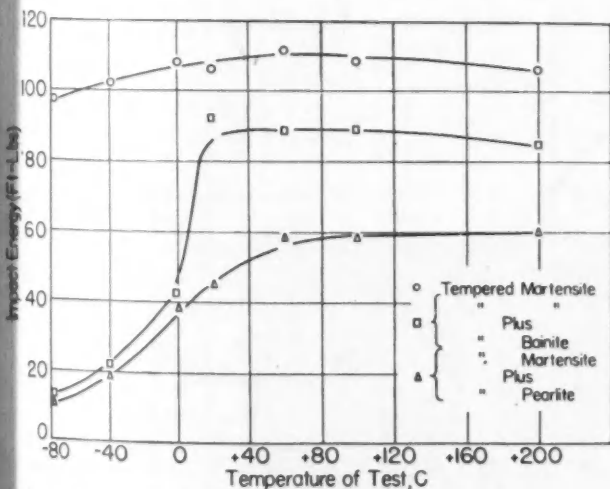

Fig. 3 - Tempered martensite structure gives best impact resistance, these tests at a tensile strength of about 125,000 psi show
■ Fig. 3 (above) Convair 240 integral tank Z-stringer splice bolted end fittings
Key to understanding steel's behavior was the discovery that tempered martensite gives best mechanical properties that heat-treatment can develop, particularly best impact resistance, percent elongation and reduction of area with a given tensile strength. It also gives best fatigue resistance for hardness below Rockwell C 50. Figs. 3 and 4 illustrate this superiority of tempered martensite. Alloy additions modify these properties very little, except impact-notch resistance. This is a corollary to the observation that proper heat-treatment develops the same physical properties in any alloy steel. In other words, the heat-treatment that produces martensite during quenching is the right one.